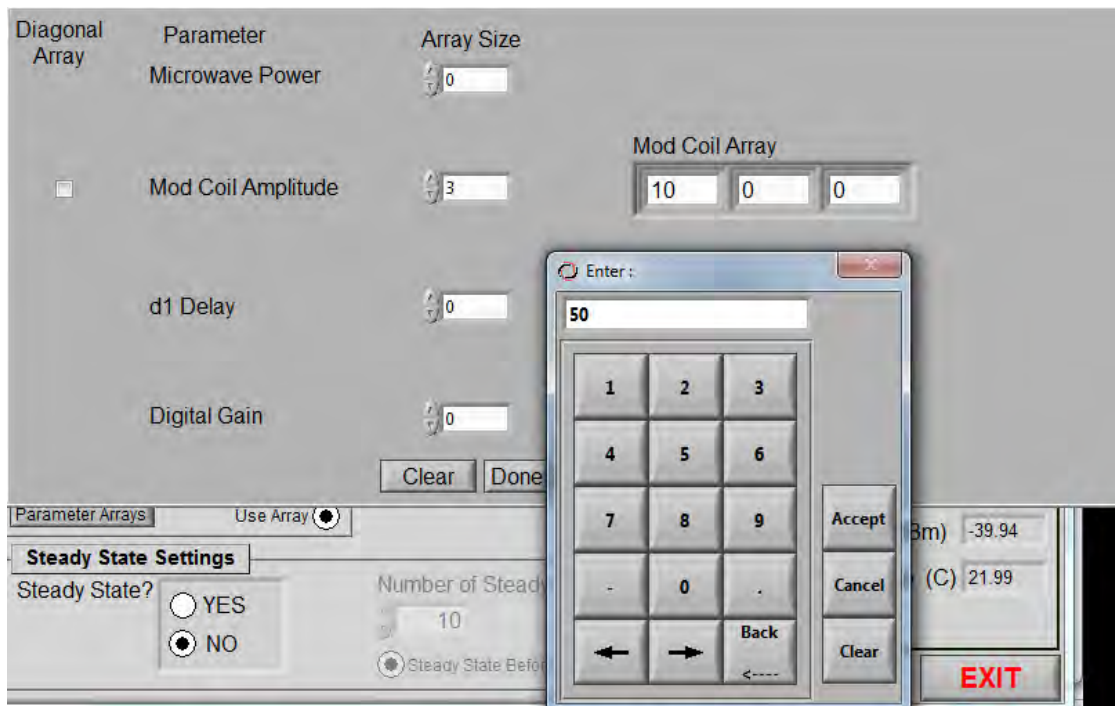

Figure 8.12: Use Keypad to Enter Mod Coil Amplitude Values
- Boxes to enter the array values for the d1 Delay will appear to the right. The number of boxes will equal the array size. Clicking in the box will bring up a keypad. Use the keypad to enter the values you wish to use. See [Figure 8.12 \[▶ 48\]](#).